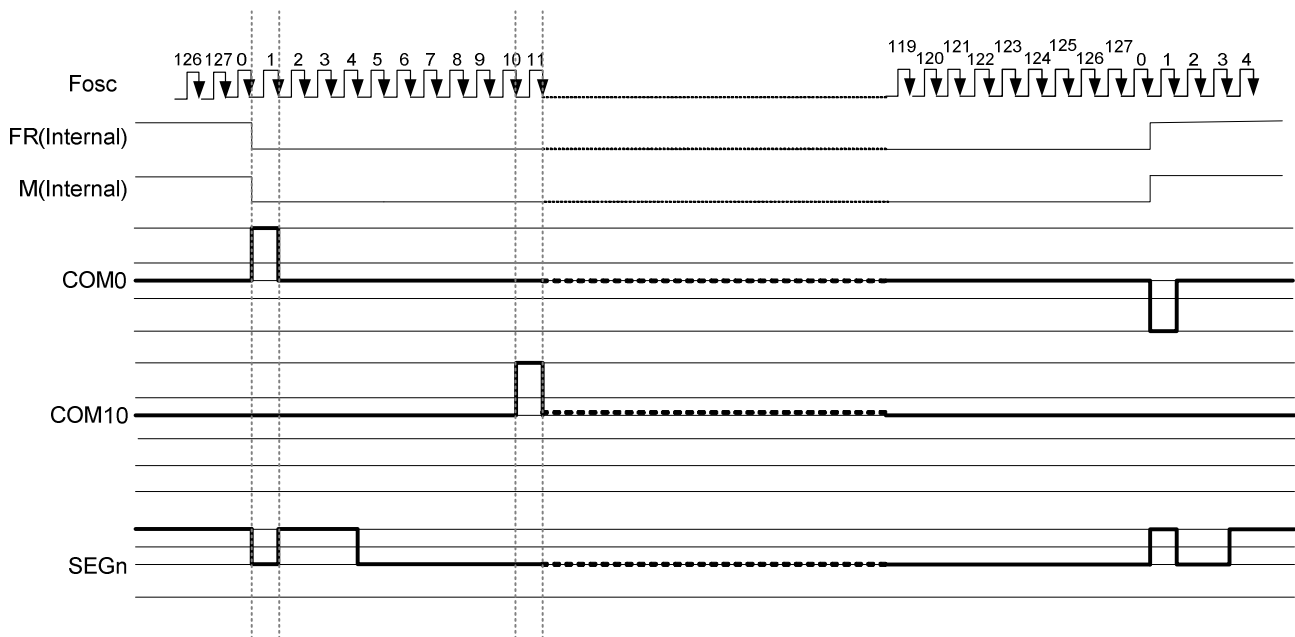

Figure 7.7-1 2-frame AC Driving Waveform (Duty Ratio: 1/128)
This circuit generates some signals to be used for displaying LCD. The display clock, which is generated by oscillation clock, generates the clock for the line counter and the signal for the display data latch. The line address of on-chip RAM is generated in synchronization with the display clock and the display data latch circuit latches the 128-bits display data in synchronization with the display clock. The display data, which is read to the LCD driver, is completely independent of the access to the display data RAM from the microprocessor. The display clock generates an LCD AC signal (M), which enables the LCD driver to make an AC drive waveform, and also generates an internal common timing signal and start signal to the common driver. The frame signal or the line signal changes the M by setting internal instruction. Driving waveform and internal timing signal are shown in Figure 7.7-1.